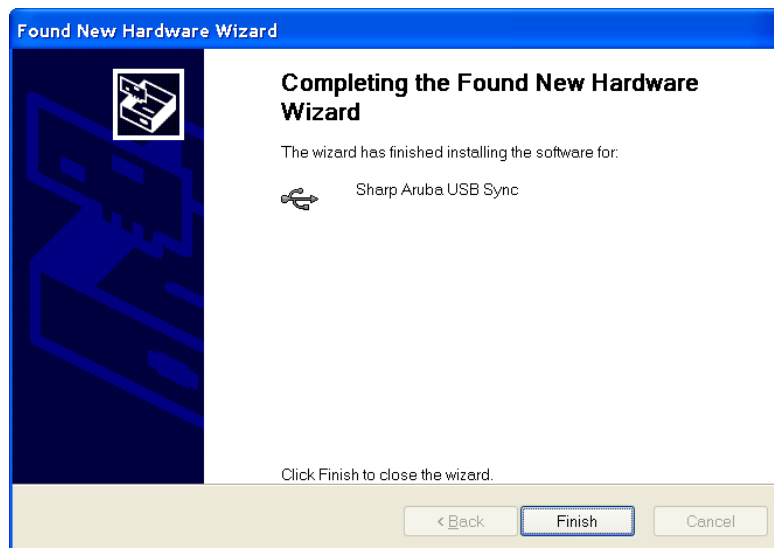

Figure 2.8: Windows XP will Automatically Install the USB Driver
1. If this is the first time that the workstation is connecting to a Zoom Development Kit, a typical Windows 'New Hardware Wizard' will appear. If you are running the latest version of Microsoft ActiveSync, the USB driver for your workstation will be automatically installed as shown in Figure 2.8.